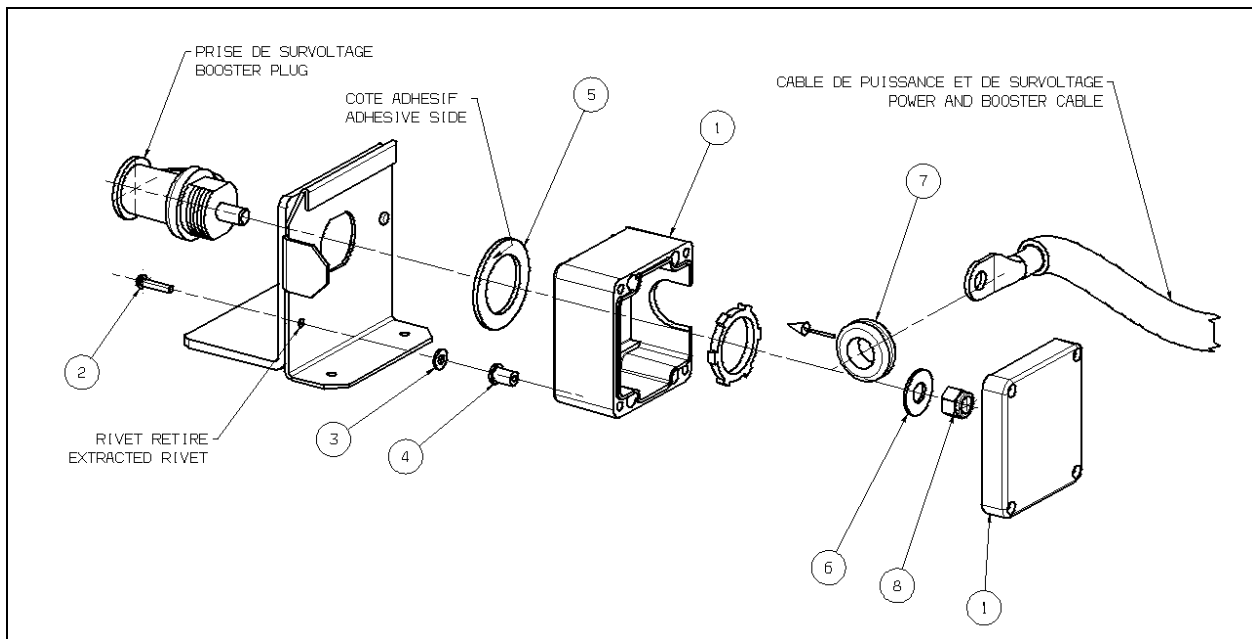

FIGURE 1
6. Remove rivet from booster block support (Refer to figure 1).
8. Insert positive terminal through support hole, slide foam sealing washer (5) (382444) over, adhesive side towards box, and then protective box (1) (382441) making sure drip hole is at the bottom. Fasten previously removed fixing nut of booster block terminal (Refer to figure 1).
9. Also secure protective box (1) to support using round head machine screw (2) (500873), flat washer (3) (5001137) and well nut (4) (500678). Use previously removed rivet hole.
10. Install grommet (7) (504671) onto protective box side.